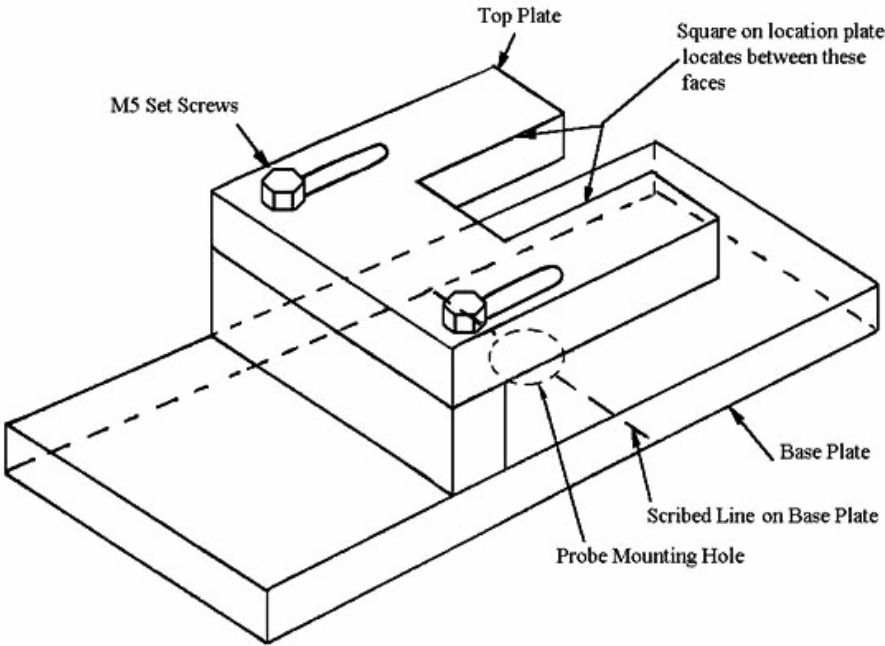

Figure 3: Jig for Setting BR WSP Probe to Drawing NSE-A1-8370379
- 5.3 Release the two set screws on the jig (see Figure 3) and slide the top plate away from the probe mounting hole.